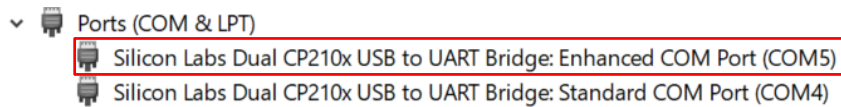

Figure 4: USB Ports
Step 5: Select the correct “**COM Port**” (USB Port shown in *Figure 4* above) and the “**Baudrate**”.